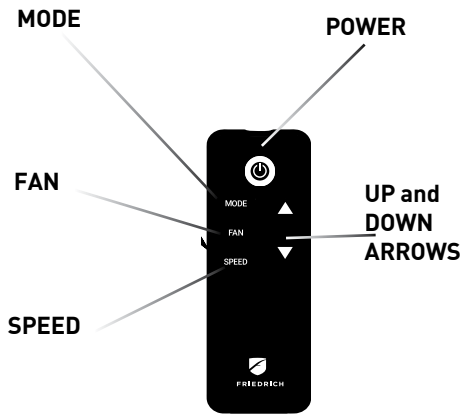
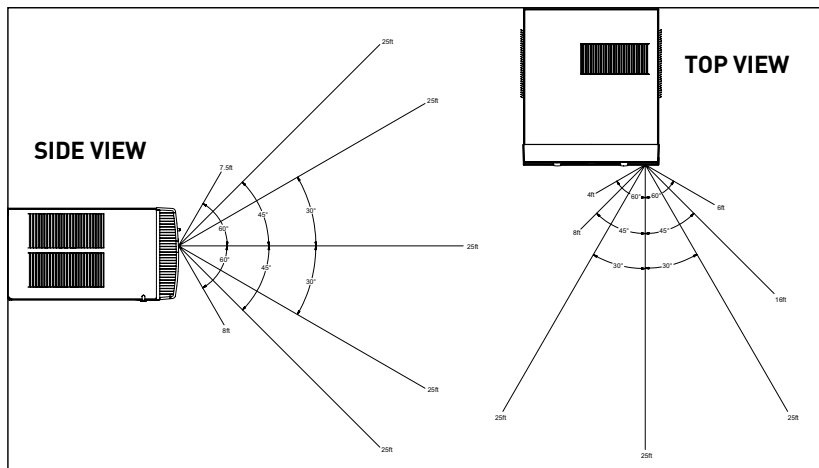

Figure 340A (Remote Control)
Figure 340B (Remote Control Effectiveness)
**Remote Control** - Refer to Figure 340A during operation description.
**Getting Started** - Install two (2) AAA batteries in the battery compartment located on the back of the unit.
**Operation** - The remote control should be within 25 feet of the air conditioner for operation (refer to Figure 340B for effectiveness). Press the power button to turn the remote on. The remote will automatically power off after 15 seconds if the buttons are not being pressed. The remote must be on to control the unit.